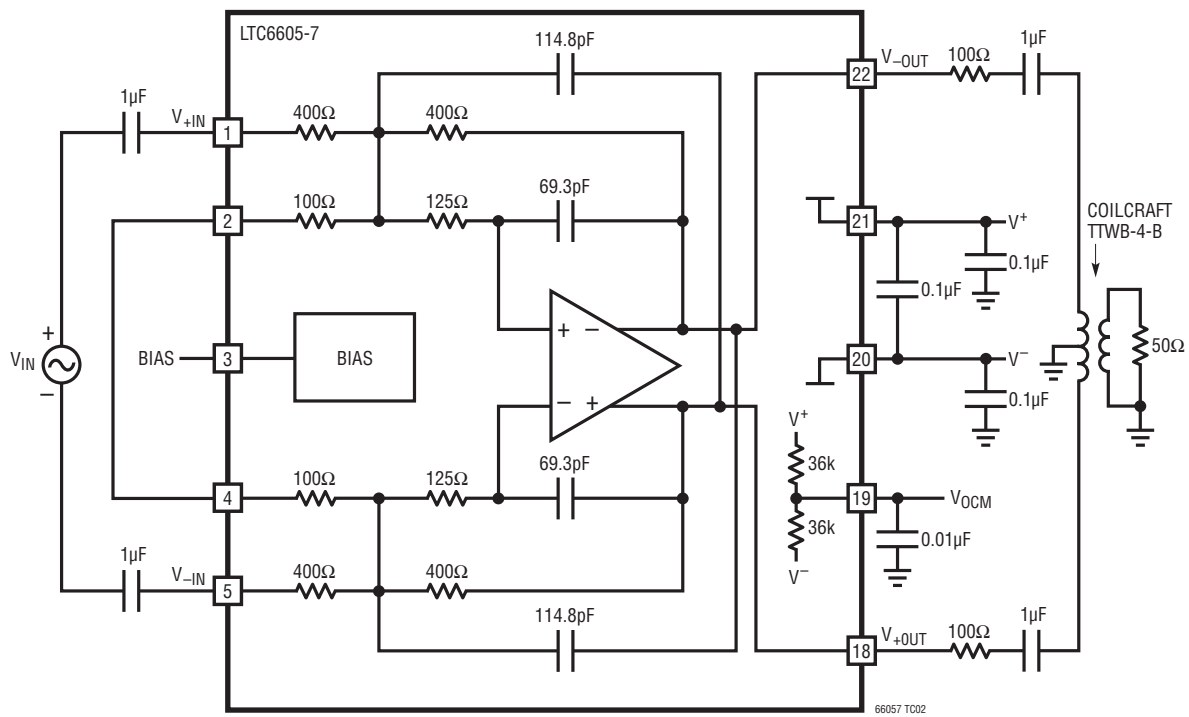

Figure 2. AC Test Circuit (Channel A Shown)
**AC ELECTRICAL CHARACTERISTICS** The ● denotes the specifications which apply over the full operating temperature range, otherwise specifications are at  $T_A = 25^\circ\text{C}$ .  $V^+ = 3\text{V}$ ,  $V^- = 0\text{V}$ ,  $V_{\text{INCM}} = V_{\text{OCM}} = \text{mid-supply}$ ,  $V_{\text{BIAS}} = V^+$ , unless otherwise noted. Filter configured as in Figure 2, unless otherwise noted.  $V_S$  is defined as  $(V^+ - V^-)$ .  $V_{\text{OUTCM}}$  is defined as  $(V_{+\text{OUT}} + V_{-\text{OUT}})/2$ .  $V_{\text{INCM}}$  is defined as  $(V_{+\text{IN}} + V_{-\text{IN}})/2$ .  $V_{\text{OUTDIFF}}$  is defined as  $(V_{+\text{OUT}} - V_{-\text{OUT}})$ .  $V_{\text{INDIFF}}$  is defined as  $(V_{+\text{IN}} + V_{-\text{IN}})$ .